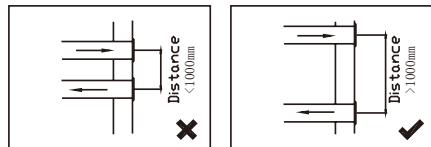

Fig.7 Distance between outdoor vents
- (5) The distance between the two vents should be above 1000mm to prevent exhausted air from returning into room from fresh air inlet, as shown in Fig.7.